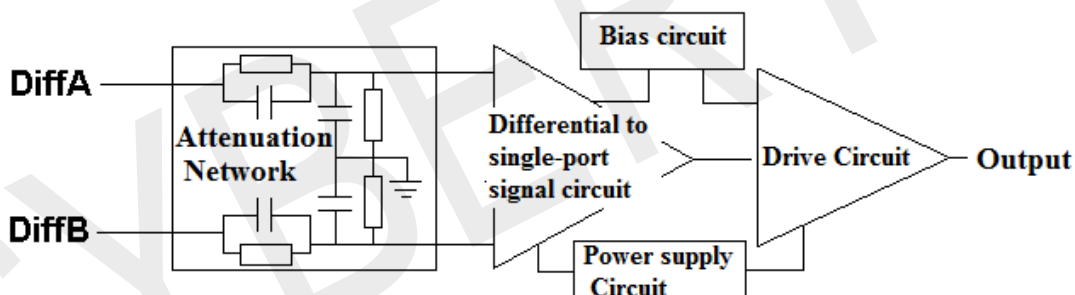

Figure 6 Common theory diagram of differential probe
**Bandwidth (Common):** All probes have bandwidth. The bandwidth of probe is defined as the frequency when the probe response causes the output amplitude reduced to 70.7% (-3 dB), as shown in Figure 6. When selecting oscilloscope and probe, users need to know that bandwidth influences measurement accuracy in many aspects. In amplitude measurement, when sine wave frequency is closed to the limit of bandwidth, amplitude of the sine wave will reduce. At the limit of bandwidth, the amplitude of the sine wave will be measured as the 70.7% of the actual amplitude. Thus, to realize maximum amplitude measuring precision, users must select the oscilloscope and probe which have the bandwidth several times higher than the maximum frequency range planned. This conclusion is also suitable for measuring rise time and fall time. Wave form transform edge (such as pulse and square wave edge) is consisted of high frequency component. Bandwidth limit makes these high frequency attenuates, thus the conversion displayed is slower than the actual conversion speed. To precisely measure rise time and fall time, the measuring system used must have enough bandwidth to keep the high frequency component forming the rise time and fall time. In the common situation, when using the rise time of the measuring system, the rise time of the system should be two times of that of the measurement. Normally in the field of switch power supply, bandwidth of 50MHz is enough.